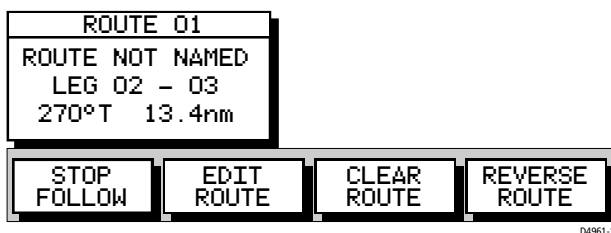

Figure 3-37: Stop Follow Soft Keys
3. If following the current route, the STOP FOLLOW soft keys are displayed as shown in *Figure 3-37*.